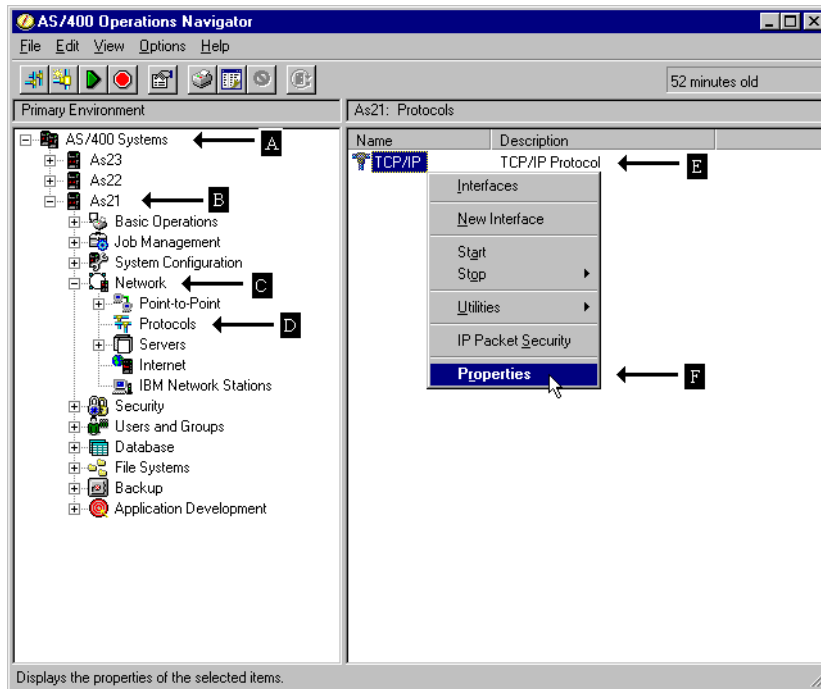

Figure 470. Context menu - Properties
- b. Double-click your AS/400 Systems icon (A). It should give you a list of all the AS/400 systems that you can configure.
- c. Double-click the AS/400 system for which you want to configure a domain and host name (B).
- d. Double-click **Networks** (C).
- e. Double-click **Protocols** (D).
- f. Right-click **TCP/IP** to open a context menu (E).
- g. Select **Properties** from the context menu (F). Figure 470 shows the context menu - Properties option.